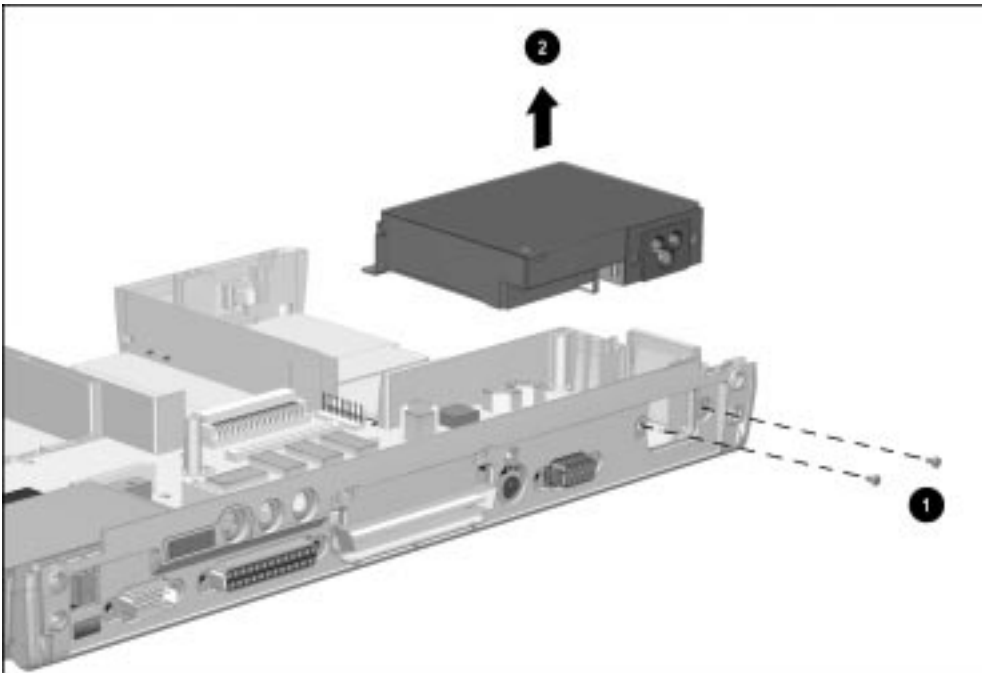

Figure 5-36. Removing the Power Supply
8. Remove the two screws ❶ that secure the power supply to the I/O bracket (Figure 5-36).
10. Lift up on the front of the power supply ❷ and swing it up and away until it clears the computer.